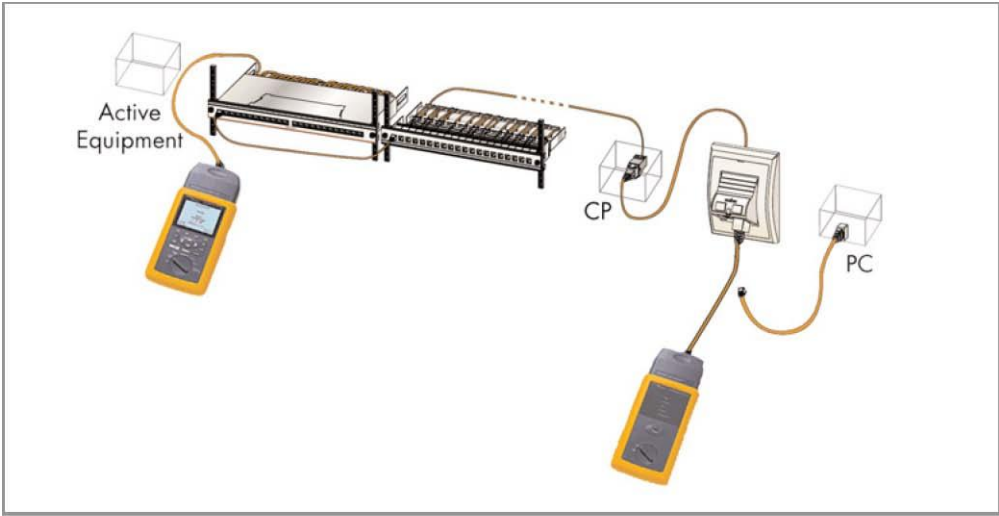

Figure 2.4: Testing at 4 connector Cross connect – CP –TO model
If LANmark-7A patch cords are used to cross connect the patch panels, testing as a 4-connector test model is mandatory to acquire a Nexans Certified Systems Warranty on the complete installation (= 4 connector installation). The installation includes a Consolidation point lead and an Equipment cord consisting of a LANmark-7A patch cord which must be terminated using a Nexans N420.736 (7A) GG45 connector connecting the Consolidation Point (CP) to the Telecommunication Outlet (TO) and the Cross Connect panel representing the ports on the equipment. Testing in a 4 connector test model as shown in Figure 2.4 is mandatory to acquire a Class FA Certified Systems Warranty on the complete installation (= 4 connector installation) under the condition that the correct test heads and test limits are used.